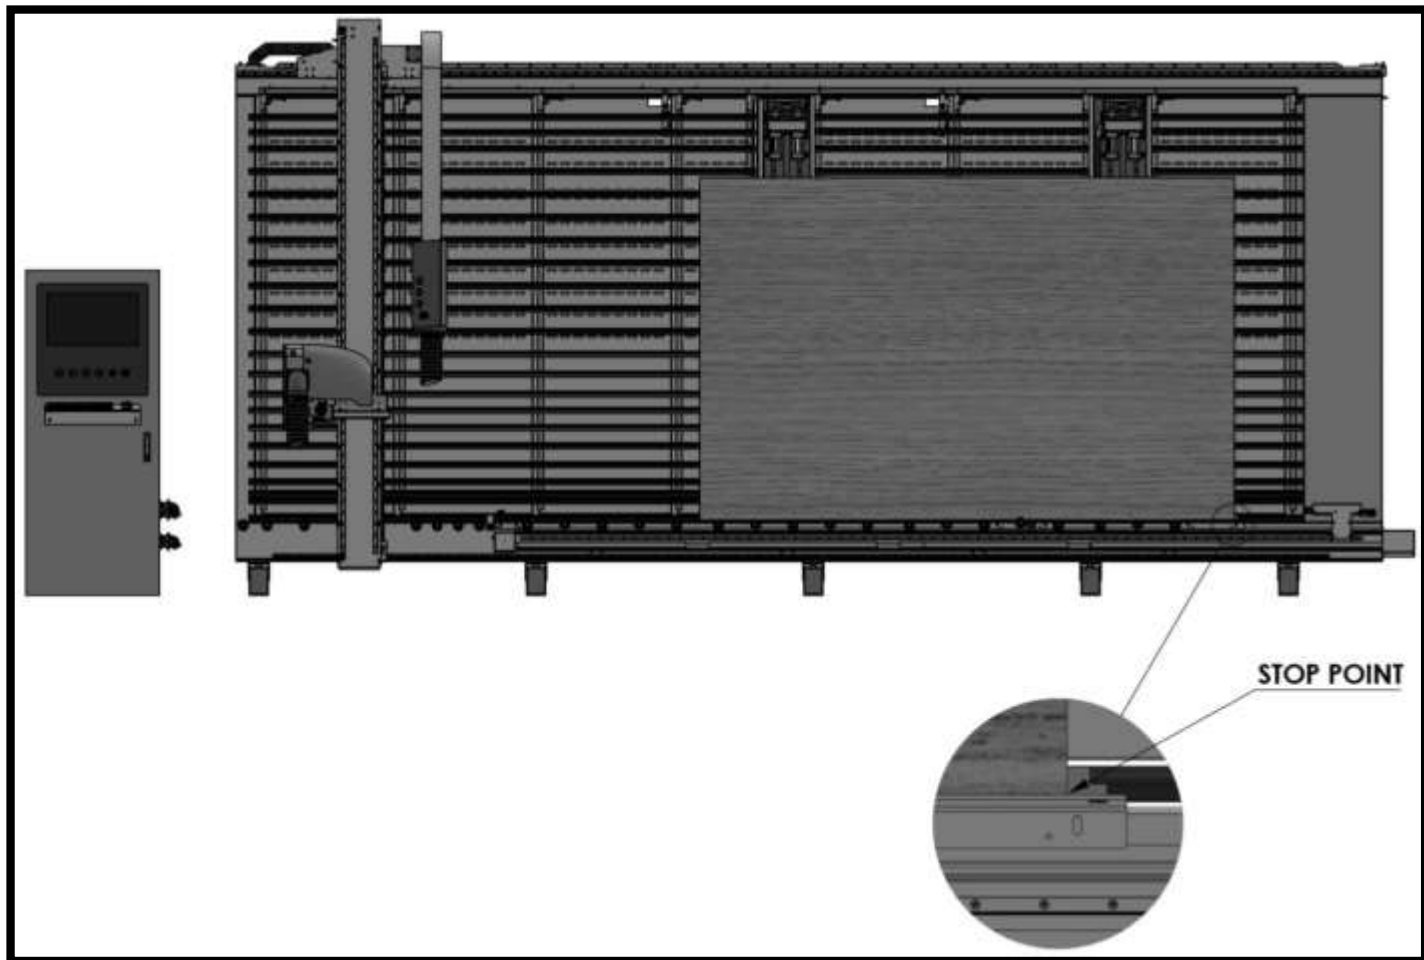

Figure 3.1 - Position of the workpiece on the machine
- 4- The material can move to the left and right by hand. It rests on the chassis by moving it manually to the right. (Figure 3.1)